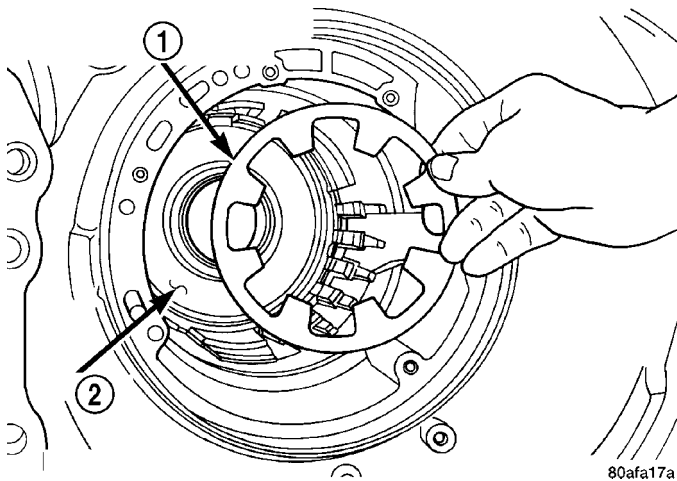

Fig. 75 Low/Reverse Piston Return Spring
(58) Remove low/reverse spring compressor tool and low reverse piston return spring (Fig. 75).